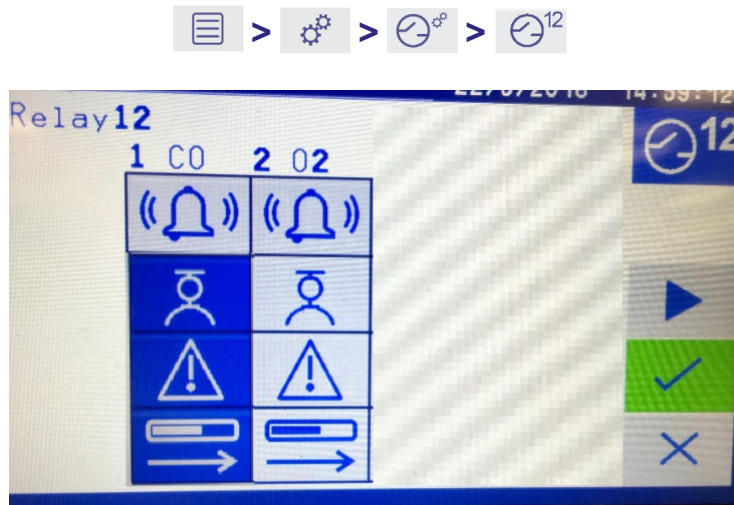

Figure 11-11: Activity Assignment Menu for Relay #12 in an analyzer with two transducers (CO and O₂).
Use the Activity Assignment Menu (Figure 11-11) to assign a function to a specific relay by touching the functions icon and activating it. Each relay can be assigned to one or more of the transducers purchased, which will be listed on the screen. Any number of links may be made between any function to any relay card present within the analyzer.
Multiple activities can be assigned to one relay. In Figure 11-11 the Calibration, Fault and Out of Range functions for the CO transducer are all active (so the icons show a dark blue background) and are assigned to Relay #12.
Those activities can also be linked to different transducers present in the analyzer. In Figure 11-11 Relay #12 can be assigned alarms for Transducer #1 (CO) and / or Transducer #2 (O₂). To assign an alarm to Transducer #2 (in this case it is O₂):
- touch the alarm icon  located below the O₂ symbol as shown in Figure 11-11
- Touch the  icon (see Figure 11-11) to save the relay information.